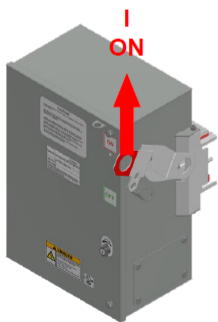

Figure 29. Turin-on
- Turn-on position. (Figure 29)